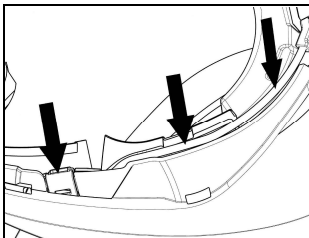

Fig. 9
- Fix the cable inside the helmet and make sure the right fixing clip snaps into its housing (Fig. 9).